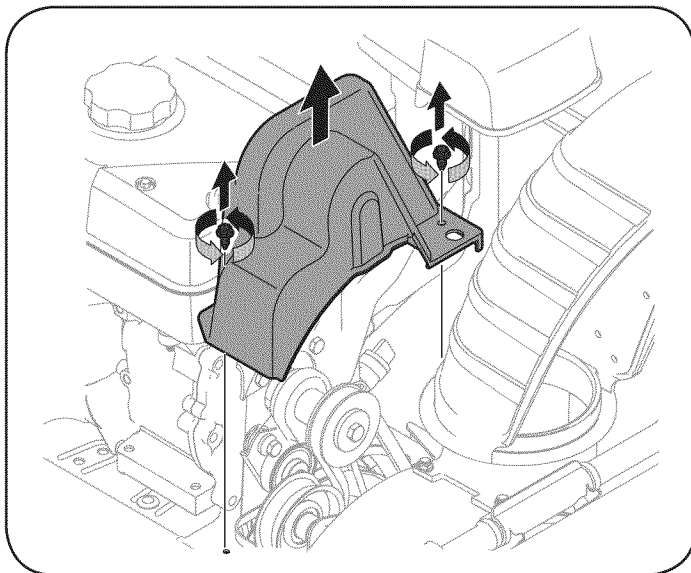

Figure 30
2. Remove the plastic belt cover on the front of the engine by removing the two self-tapping screws. See Figure 30.